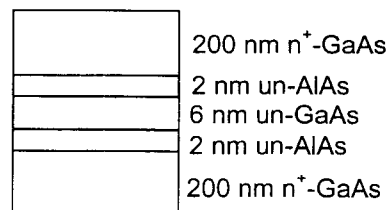

Figure 1.2: Hetero-junction layer structure consisting of AlAs and GaAs
- c) Take the layer structure given in Figure 1.2.
- ii) Sketch the current-voltage (IV) characteristic of the device and add the energy band diagrams associated to i) the IV region before substantial current is flowing, ii) the IV region before the negative differential resistance, iii) at the peak current and iv) the IV region after the negative differential resistance. [8/3]